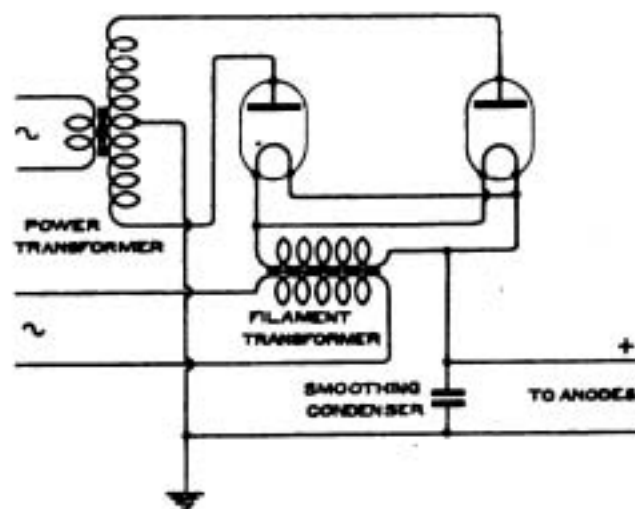

Fig. 2.
**S.W.P. (Boscombe).**—(1) Except for the fact that your diagram (which is very difficult to understand) shows the H.T. battery completely out of the plate circuit, it appears O.K., and incapable of alteration to advantage.
(2) The terms are equivalent. Any combination of two coils, between which the degree of coupling may be considerably varied, is a loose coupler, and may be used for obtaining variable reactance.
(3) A.T.I., 10" x 6", of No. 22. Reaction coil, 8" x 4" of No. 28.
(4) Scrap the switch. At most two or three tappings are required on a reaction coil. The reaction coil must be situated close enough to the A.T.I. to be inserted in it when required.
**S.P.B.A. (Iceland).**—When using rectified A.C. as anode voltage in power valve working it is necessary that the rectified impulses should be smoothed out to obtain a steady voltage for oscillator valve anodes. This smoothing out is obtained by passing the rectified impulses into a large capacity storage condenser from which almost steady D.C. voltage is obtained. Owing to instantaneous differences between the current put into the condenser, and that taken out, there is a slight ripple on the condenser voltage, which gives the characteristic hum of a valve set. At low frequencies this ripple is more pronounced than at higher frequencies. With double rectification the frequency of this ripple is double the supply frequency. With D.R. the transformer secondary voltage should be twice that for single rectification to obtain the same voltage from the condenser. The connections for double rectification are shown in Fig. 2.